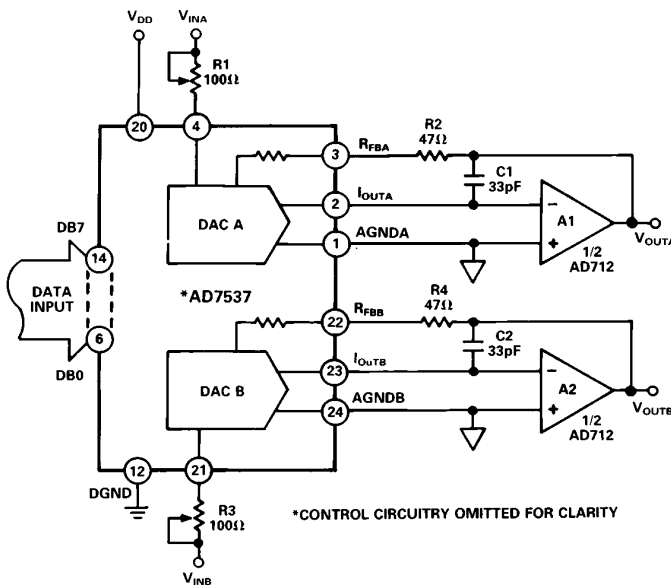
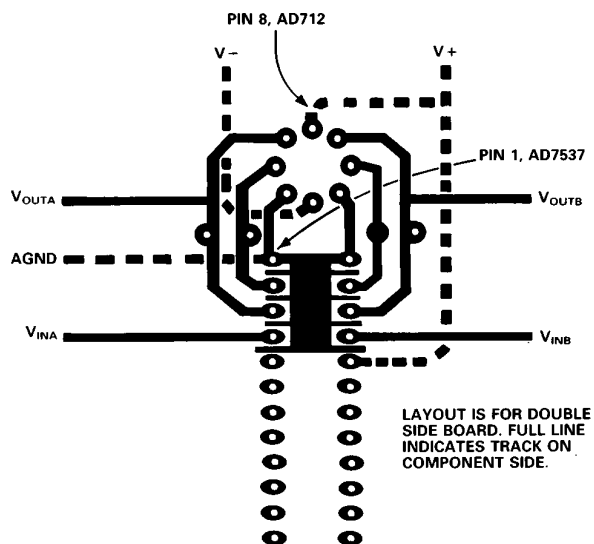

Figure 4. AD7537 Unipolar Binary Operation
Figure 8. Suggested Layout for AD7537
current flowing in each ladder leg is constant, irrespective of switch state. The feedback resistor  $R_{FBA}$  is used with an op amp (see Figures 4 and 5) to convert the current flowing in  $I_{OUTA}$  to a voltage output.
Figure 4 shows the circuit diagram for unipolar binary operation. With an ac input, the circuit performs 2-quadrant multiplication. The code table for Figure 4 is given in Table II.
Table II. Unipolar Binary Code Table for Circuit of Figure 4
**Output Offset:** CMOS D/A converters in circuits such as Figures 4 and 5 exhibit a code dependent output resistance which in turn can cause a code dependent error voltage at the output of the amplifier. The maximum amplitude of this error, which adds to the D/A converter nonlinearity, depends on  $V_{OS}$ , where  $V_{OS}$  is the amplifier input offset voltage. To maintain specified operation, it is recommended that  $V_{OS}$  be no greater than  $(25 \times 10^{-6}) (V_{REF})$  over the temperature range of operation. Suitable op amps are the AD711C and its dual version, the AD712C. These op amps have a wide bandwidth and high slew rate and are recommended for wide bandwidth ac applications. AD711/AD712 settling time to 0.01% is typically 3  $\mu$ s.
**Temperature Coefficients:** The gain temperature coefficient of the AD7537 has a maximum value of 5 ppm/ $^{\circ}$ C and typical value of 1 ppm/ $^{\circ}$ C. This corresponds to worst case gain shifts of 2 LSBs and 0.4 LSBs respectively over a 100 $^{\circ}$ C temperature range. When trim resistors R1 (R3) and R2 (R4) are used to adjust full scale range as in Figure 4, the temperature coefficient of R1 (R3) and R2 (R4) should also be taken into account. For further information see "Gain Error and Gain Temperature Coefficient of CMOS Multiplying DACs", Application Note, Publication Number E630c-5-3/86 available from Analog Devices.
**High Frequency Considerations:** AD7537 output capacitance works in conjunction with the amplifier feedback resistance to add a pole to the open loop response. This can cause ringing or oscillation. Stability can be restored by adding a phase compensation capacitor in parallel with the feedback resistor. This is shown as C1 and C2 in Figures 4 and 5.
**Feedthrough:** The dynamic performance of the AD7537 depends upon the gain and phase stability of the output amplifier, together with the optimum choice of PC board layout and decoupling components. A suggested printed circuit layout for Figure 4 is shown in Figure 8 which minimizes feedthrough from  $V_{REFA}$ ,  $V_{REFB}$  to the output in multiplying applications.